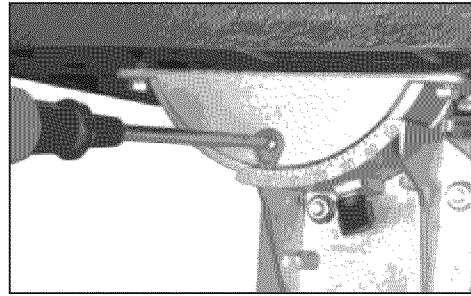

Figure 5 - Set Indicator to Zero
- Lock the table into position and check that the indicator reads zero degree on the side of lower table trunnion. Loosen the screw securing the indicator and reset if necessary to give zero degree reading (see Figure 5).